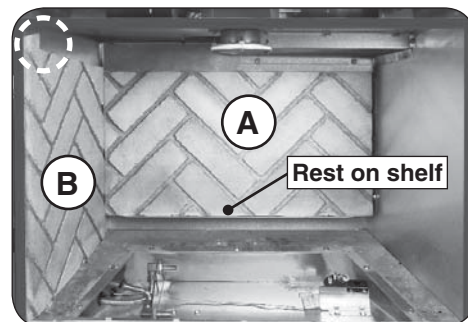

Fig. 29-5 Place rear panel, left panel
6. Place the rear panel at the rear of the unit. It will rest on the shelf found on the lower rear of the unit. See Fig. 29-5, "A".
7. Place the left panel on the left side of the unit. Ensure it completely rests inside of the front lip of the unit. See Fig. 29-5, "B".